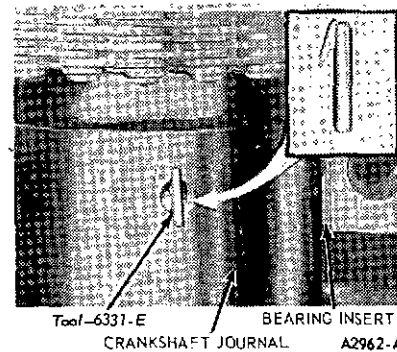

FIG. 53 Removing or Installing Upper Main Bearing Insert
4. Insert the upper bearing removal tool (Tool 6331) in the oil hole in the crankshaft (Figure 53).
7. Install the new seal as shown in Figure 53.